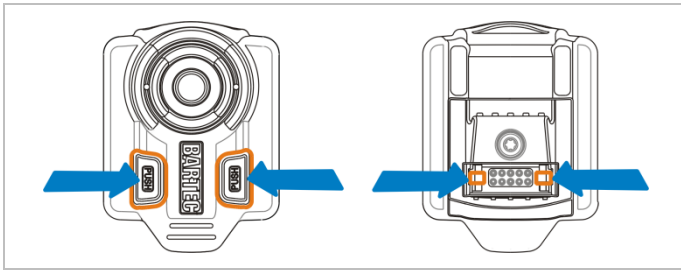

Figure 2
- (1) Press the two "PUSH" keys simultaneously to open the lock (Figure 2).